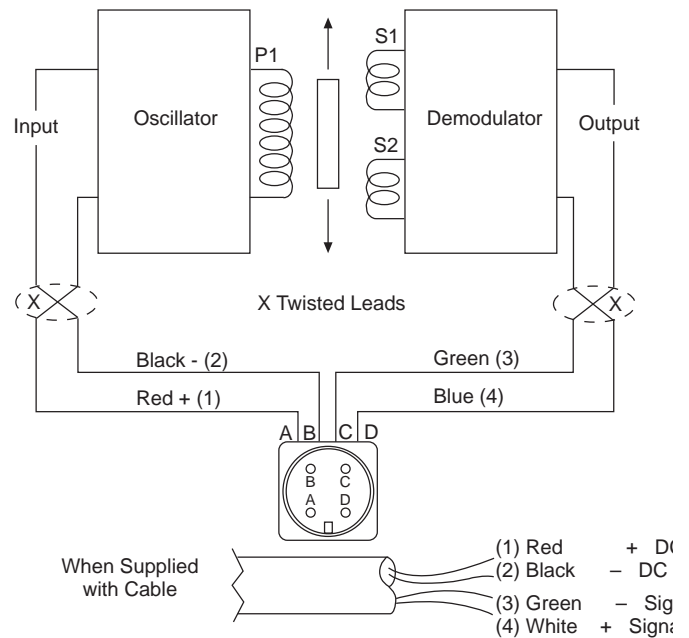

Figure 9
- 3. Observing correct polarity, connect the positive (+) input lead to Pin A and the negative (-) input lead to Pin B. (See Figure 9)
- 4. Connect the positive (+) output lead to Pin D and the negative (-) output lead to Pin C. (See Figure 9)
- 2. Connect a voltmeter to Pins C and D (See Figure 9)